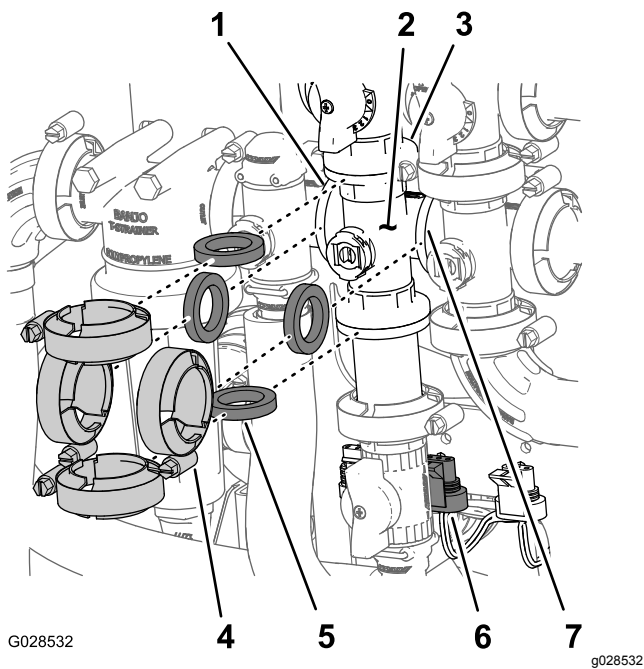

Figure 85
1. Remove clamps and gaskets that secure the manifold for the agitation valve (Figure 85) to the agitation bypass valve, rate control valve, master boom valve, and adapter fitting (agitation throttle valve).